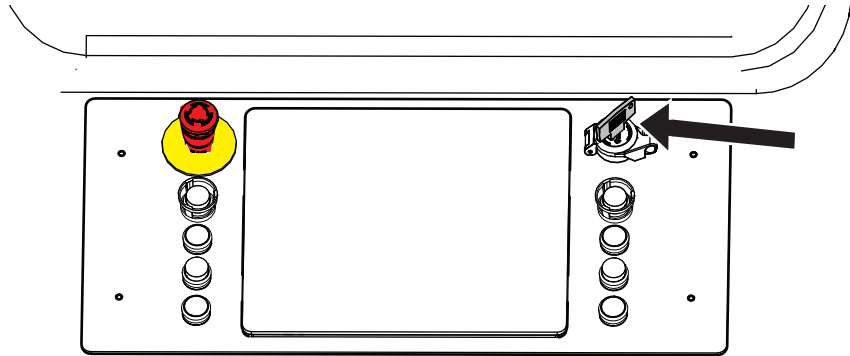

Figure 45 Trapped key position at the sides of the HMI screen
- 1 Remove The Trapped key from the panel. The key is found at the top right corner next to the front HMI panel. (see Fig. 45)